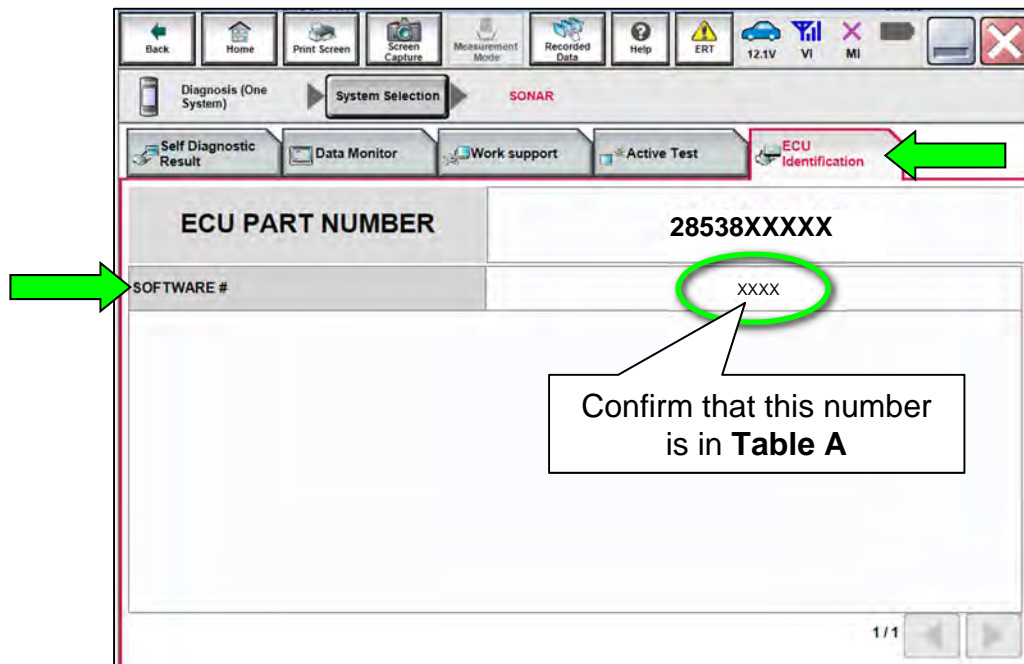

Figure 36
61. Confirm the **SOFTWARE #** (Figure 36).